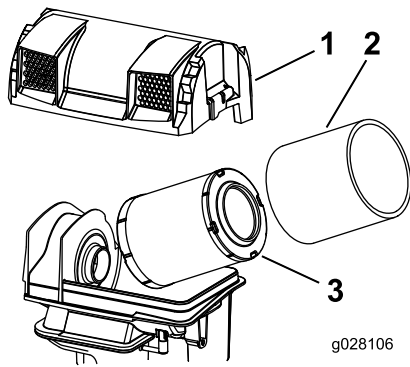

Figure 19
3. Remove the foam and paper elements (Figure 19).
4. Remove the foam element from the paper element (Figure 19).
2. Install the elements onto the air-cleaner base (Figure 19).